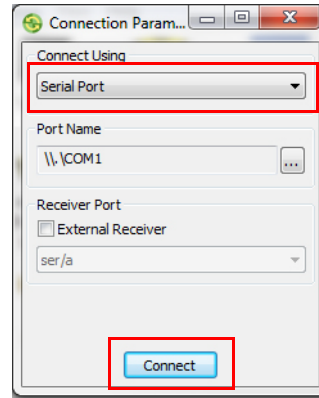

Figure 7: Connection Parameters Window
- c. In the **Connection Parameters** window (Figure 7), select **Serial Port** and the port name, and then click **Connect**.